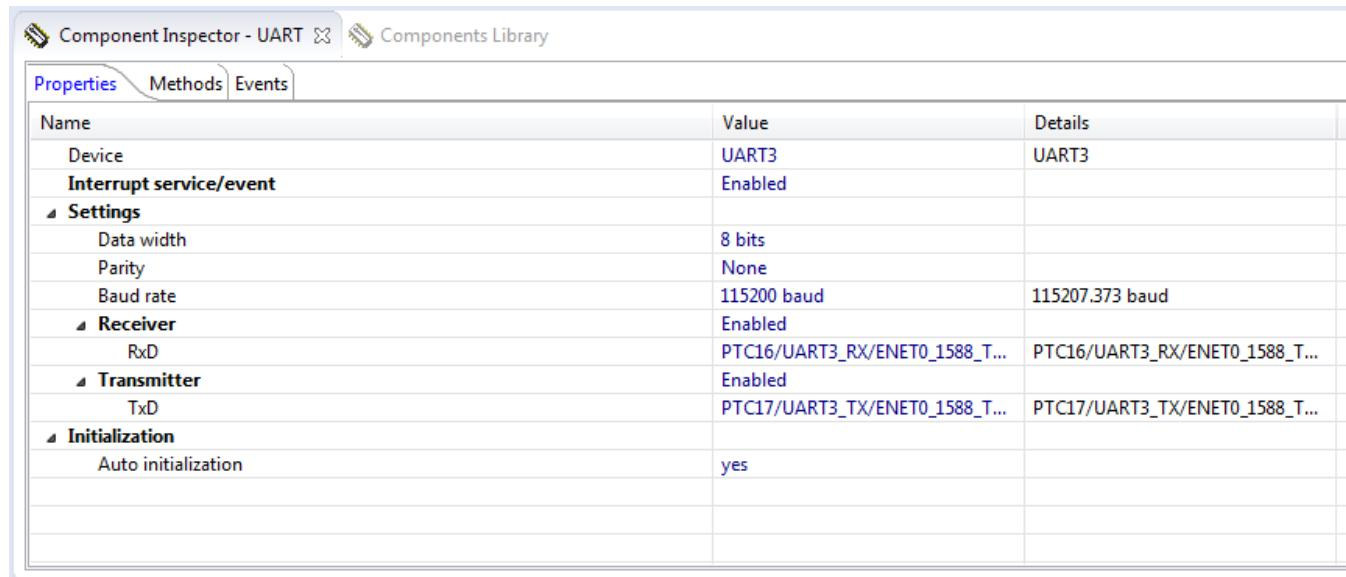

Figure 14. Component Inspector - UART panel
c. Under the **Properties** tab, of the **Component Inspector - UART**, select the appropriate UART and its correct Tx and Rx pins for the board you are using according to Table 2. See Figure 14.